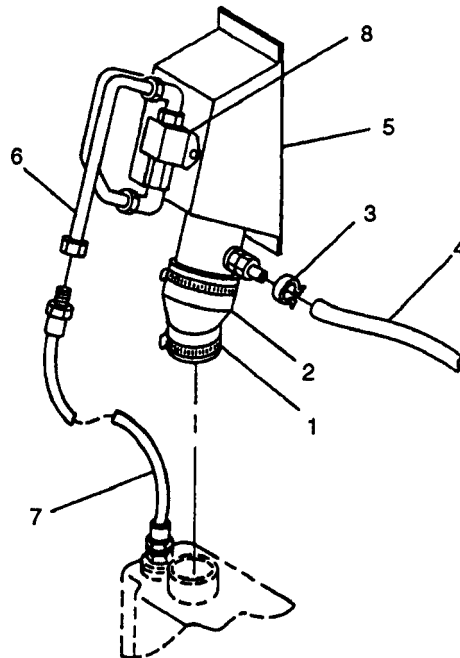

FIGURE 3-7. Fuel Filler Hoses and Panel Assembly
- z. Loosen clamp (1, FIGURE 3-7) securing hose (2) to fuel tank. Cap openings.
- aa. Loosen clamp (3) and disconnect hose (4) from fuel filler panel assembly (5). Cap openings.
- ab. Disconnect fuel line (6) from hose (7). Cap openings.
- ac. Tag and disconnect auxiliary fuel pump (8) electrical connector.
- ai. Connect auxiliary fuel pump (8, FIGURE 3-7) electrical connector and remove tag.
- aj. Remove caps and connect fuel hose (7) to fuel line (6).
- ak. Remove caps and connect hose (4) to fuel filler panel assembly (5) and tighten clamp (3).
- al. Remove caps and connect hose (2) to fuel tank and tighten clamp (1).